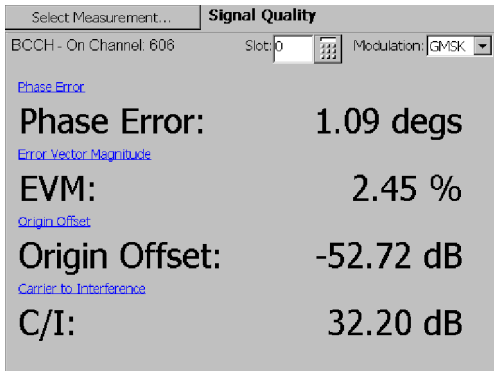

Figure 3-50: GSM/EDGE Signal Quality measurement
4. Tap **Signal Quality**. See Figure 3-50.